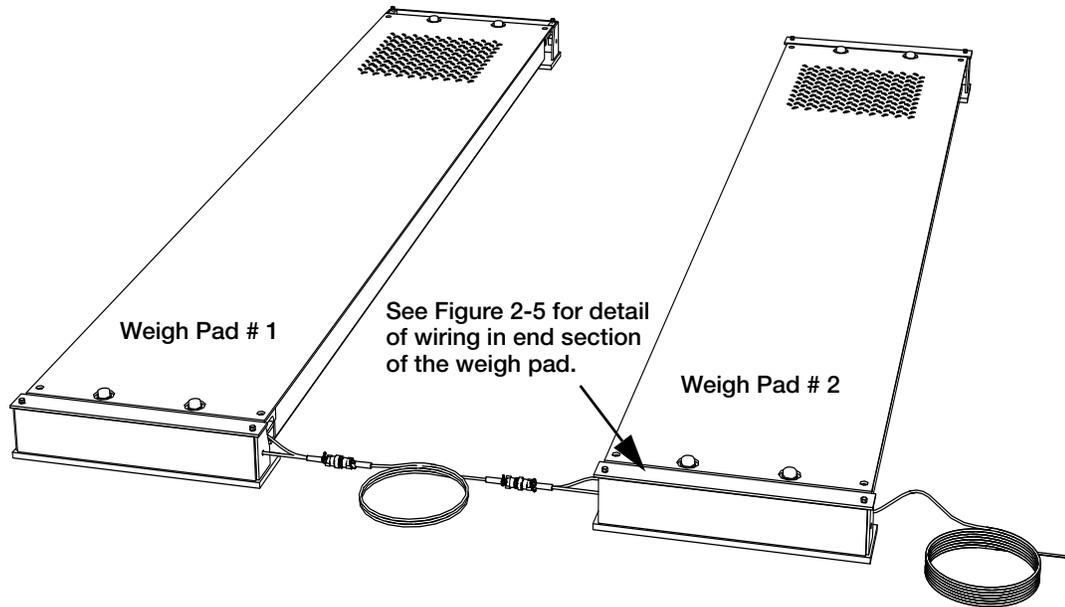

Figure 2-4. Cabling Diagram Full View
**Note** See Figure 2-4 and 2-5 for location or positioning of junction box and cables.